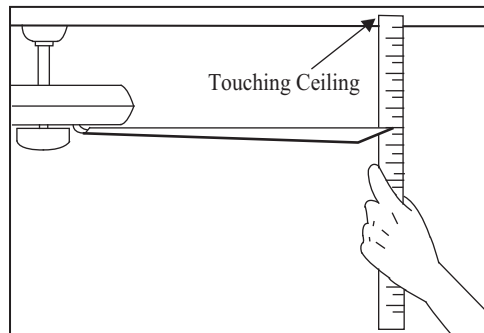

Figure 22
2. Most fan wobble problems are caused when blade levels are unequal. Check this level by selecting a point on the ceiling above the tip of one of the blades. Measure from a point on the center of each blade to the point on the ceiling. Measure this distance as shown in Figure 22. Rotate the fan until the next blade is positioned for measurement. Repeat for each blade. Measurements deviation should be within 1/8". Run the fan for 10 Minutes.